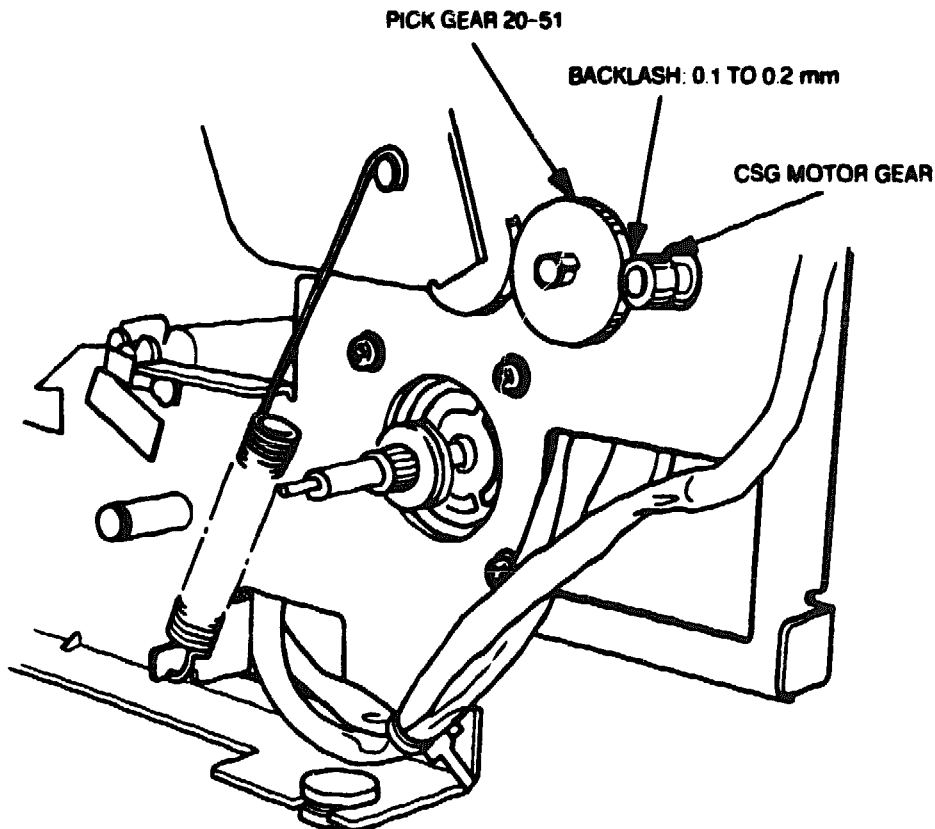

Figure 4-17 Pick Gear 20-51 Backlash Adjustment
2. To measure the backlash between the CSG motor gear and pick gear 20-51 (see Figure 4-17), insert a sheet of plain, white paper between the gears. Then slowly pull out the sheet so that the gears rotate. Examine the gear marks left on the sheet. If the sheet is crinkled but not torn, the backlash is within the specified range of between 0.004 and 0.008 in. (0.1 and 0.2 mm). If the paper tears, the backlash is not within the allowable range. Adjust the backlash as follows.